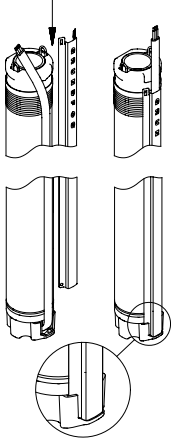

Fig. 7 Placing the cable guard
2. Place the cable guard in the groove in the cable plug. The two flaps must engage with the upper edge of the pump sleeve, see fig. 7.